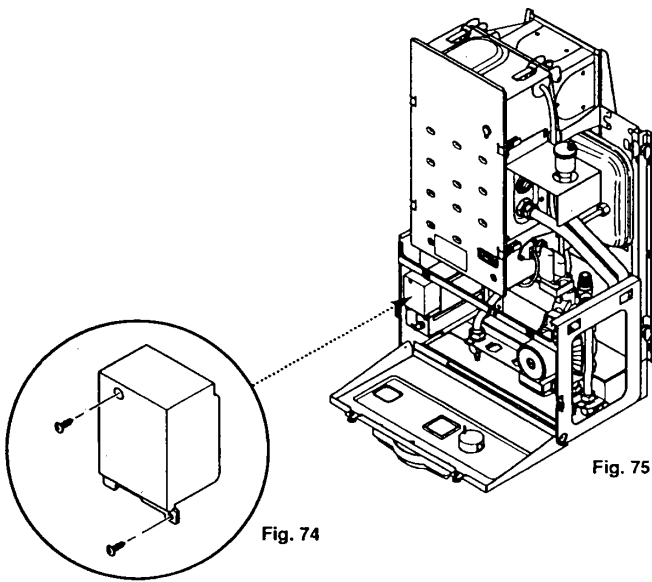

Fig. 74
1. Remove the cover from the control box by removing the 2 screws (Fig. 74).